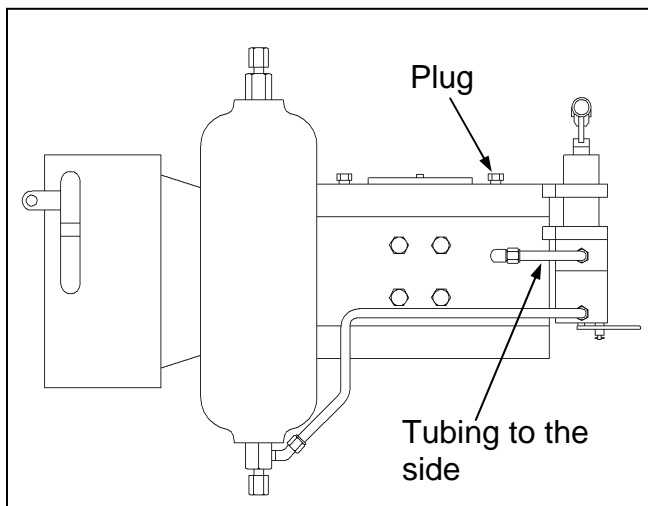

Figure 1: Old Hand Pump Assembly
4. If the old hand pump was tubed to the side of the actuator, as shown in Figure 1, remove the plugs in the upper head, directly above the side ports. Clean the threads of the plugs, apply an appropriate pipe sealant and plug the side ports.